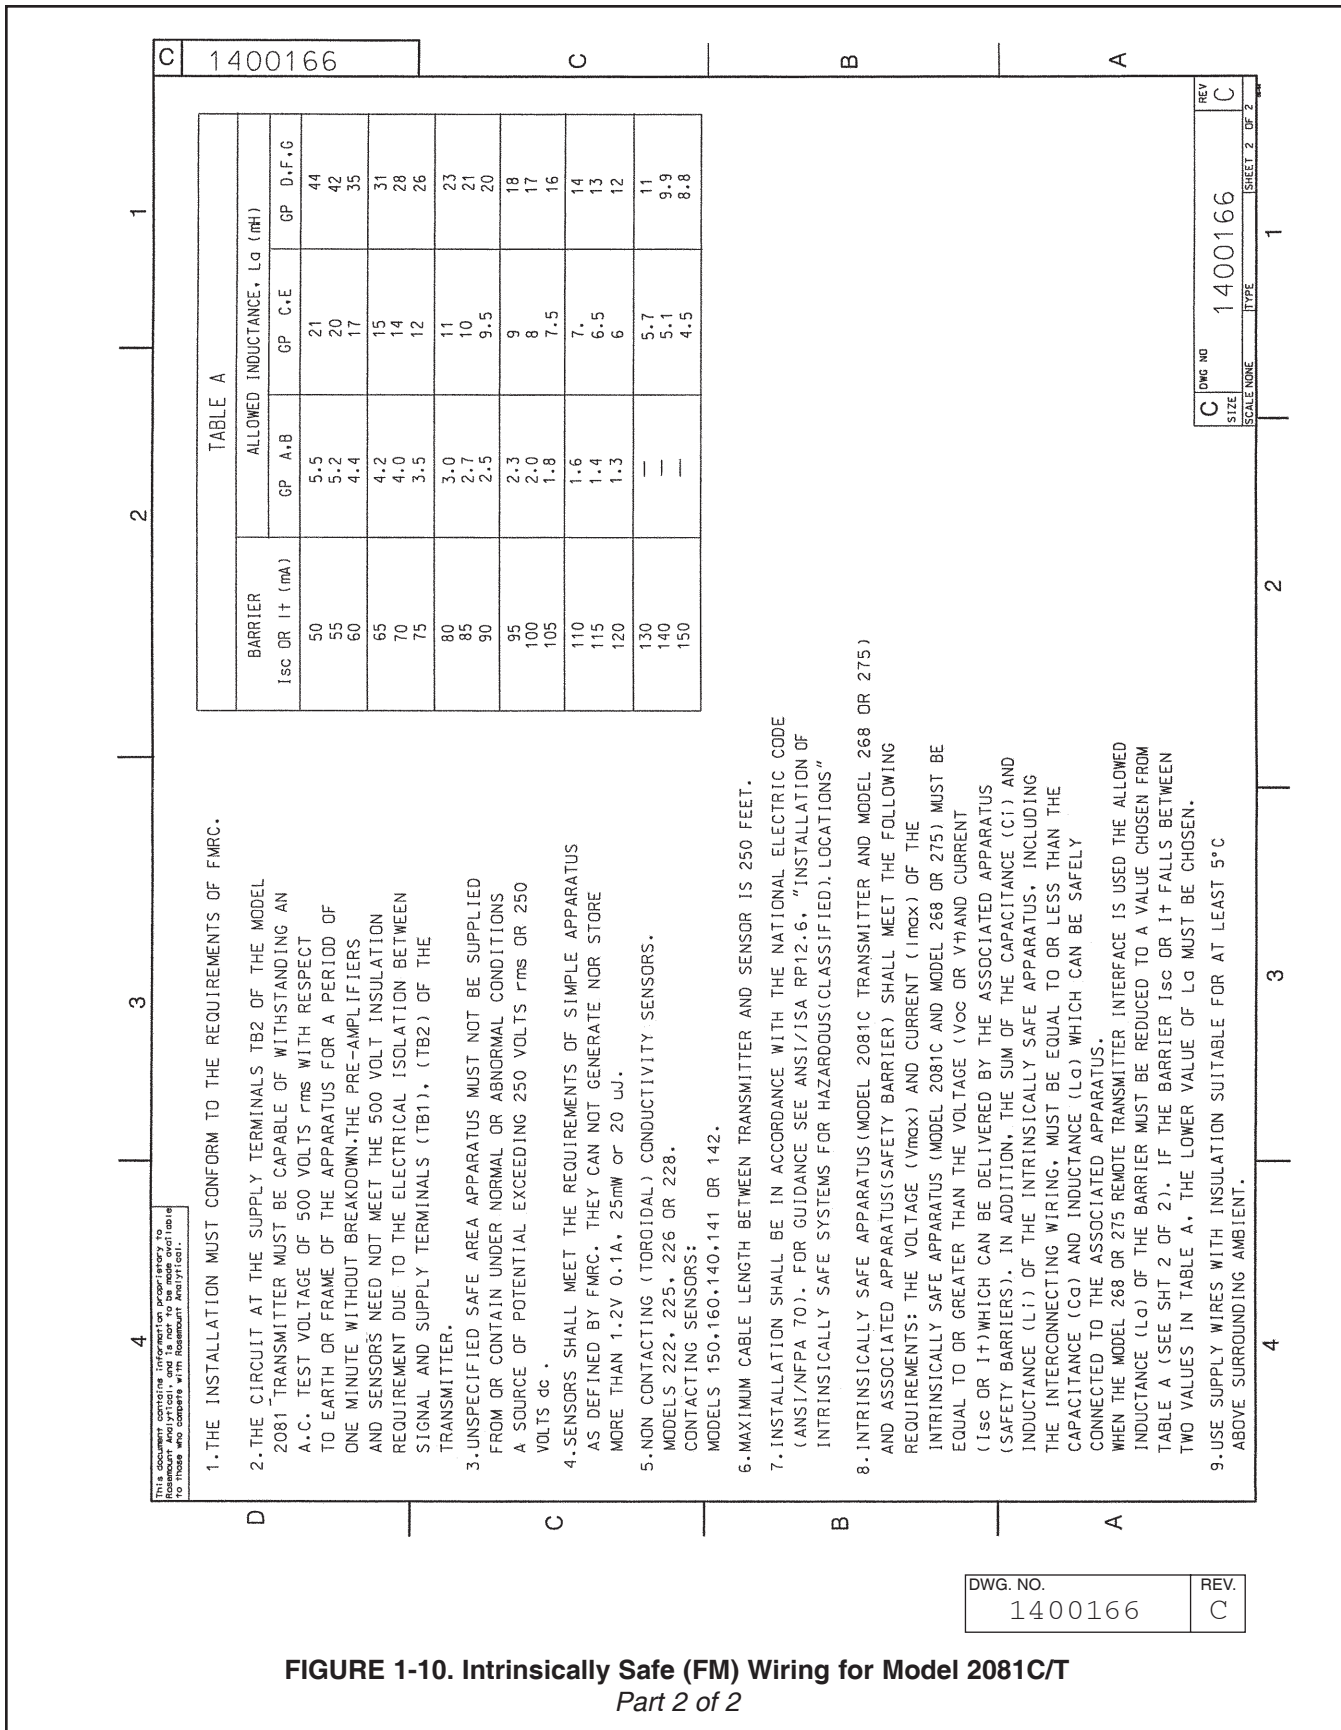

FIGURE 1-10. Intrinsically Safe (FM) Wiring for Model 2081C/T
See Figure 1-7 for Model 2081C intrinsically safe installation (BASEEFA). See Figure 1-8 for Model 2081T intrinsically safe installation (BASEEFA). See Figure 1-9 for Model 2081C and 2081T intrinsically safe installation (CSA). See Figure 1-10 for Model 2081C and 2081T intrinsically safe installation (FM).